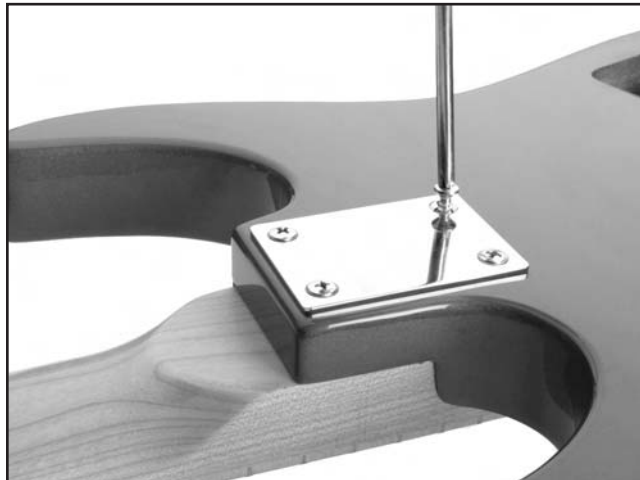

Figure 10. Neckplate installation.
2. Place the neckplate over the neck pocket holes and thread four #7 x 1/4" silver screws (**Figure 10**) through the guitar into the neck. DO NOT use glue, since you may want to remove the neck for maintenance and tune-ups.